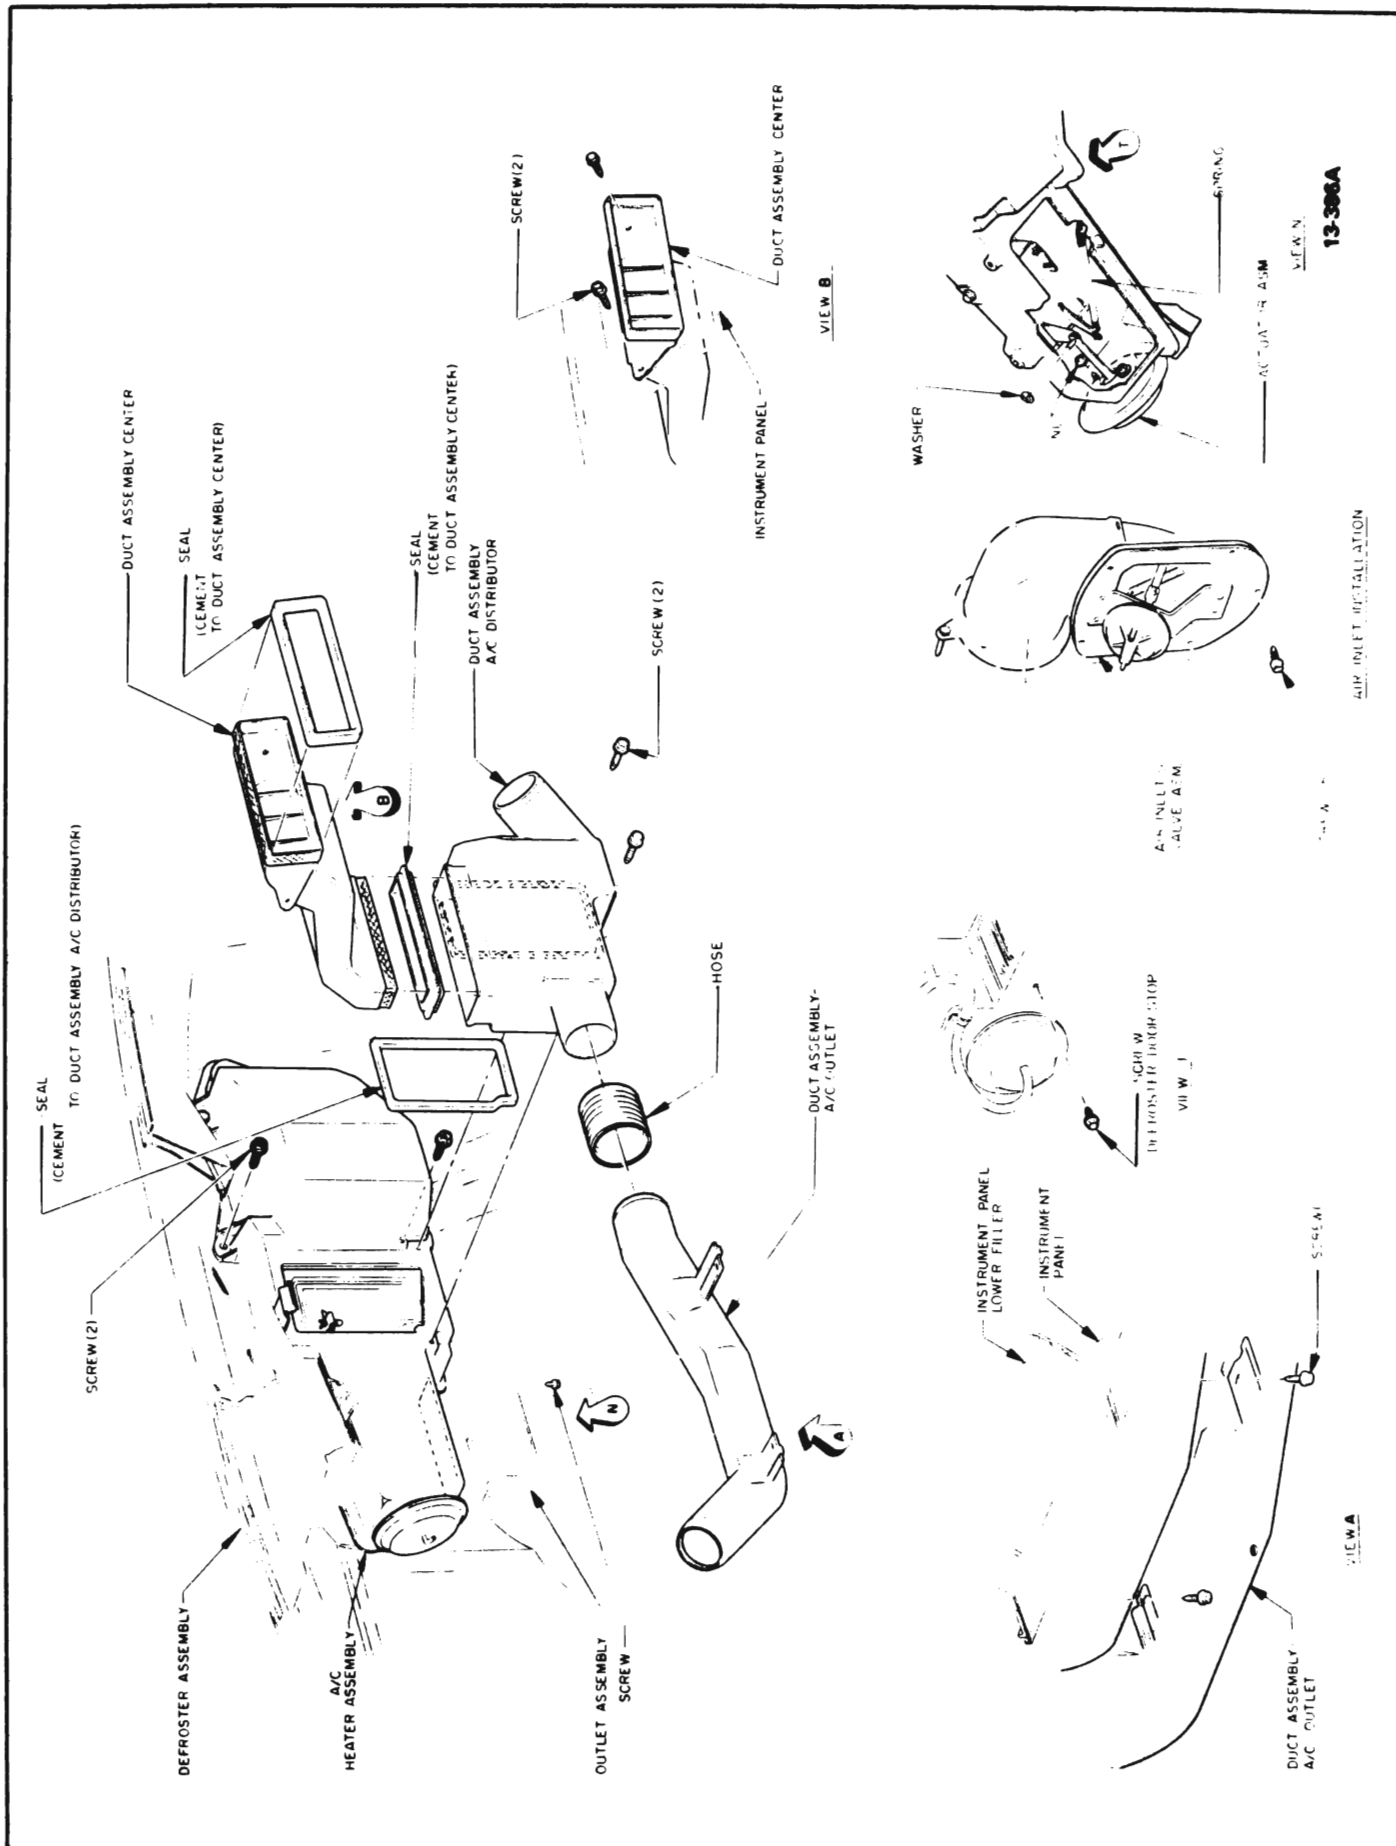

Figure 13-133 Defroster Assembly and A/C Ducts, 43-44000 Series
3. Remove center A/C duct, left A/C outlet duct, A/C distributor duct and defroster assembly. See Figure 13-133.